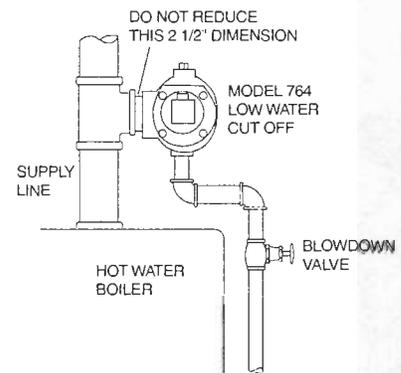

Figure 2
- a. See figure 2. If there are no 2 1/2" (65mm) tappings on a hot water boiler, the 764 control can be mounted on a 2 1/2" (65mm) tee on the riser going to the radiation or compression tank. **NOTE:** Do not reduce the 2 1/2" (65mm) tapping, as this would compromise low water protection.